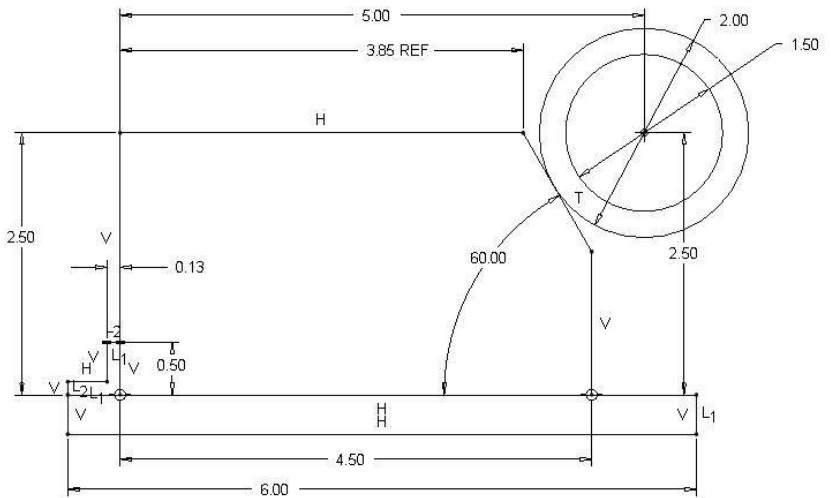

Figure 3-63 Jig Design 1b
Step 27: Modify the dimensions according to Design_1b's parameters shown in Table 3-2 and Figure 3-63. To modify a dimension *double-click* on its value using the LMB, and then type a new value followed by the <Enter> key.